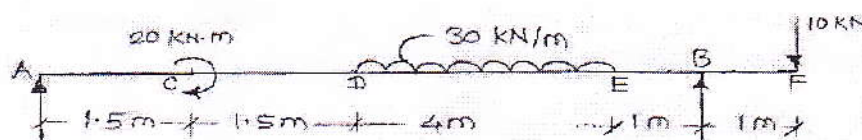

Fig.1b
- b) Construct the shear force diagram for the beam shown in Fig.1b
- b) Construct the Bending Moment diagram for the beam shown in Fig.1b